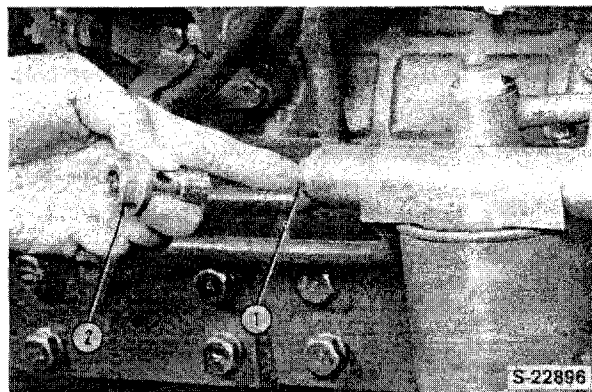

Figure 79
5. Remove the banjo bolt (2), Figure 79.